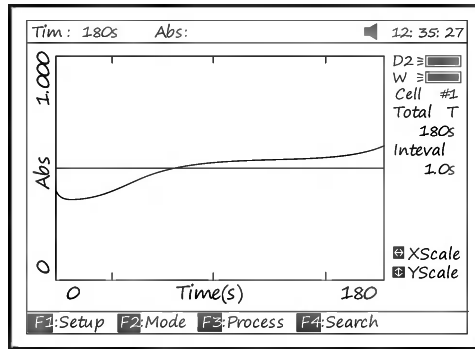

Fig 56
4. Pull the sample cuvette into Main Light Path, press **【START】** to scan the sample. After the delay time, the beeper beeps 3 times and time-scan starts. At the end of the time-scan, the beeper also beeps 3 times (Fig 56);
Press the key **【SAVE】** to save curve. Note: Load/Save requires the first kinetics display page Fig. 56. Press **ESC** if in Search to return to the required page.